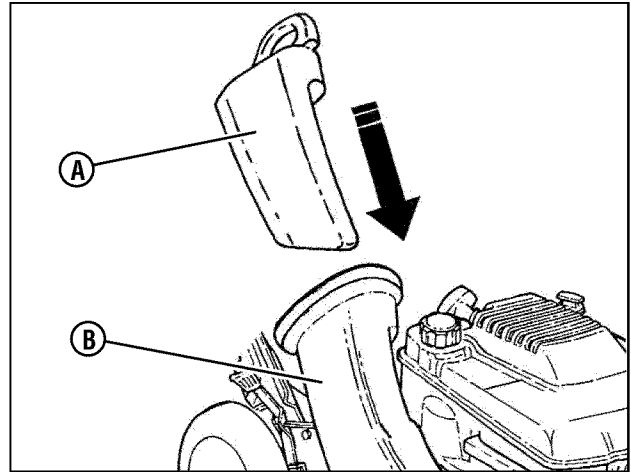

Figure 14: Installing the recycling plug
1. Install the recycling plug (A, Figure 14) if recycling is desired after the bag adapter is installed. Install the recycling plug completely and securely into the bag adapter (B).